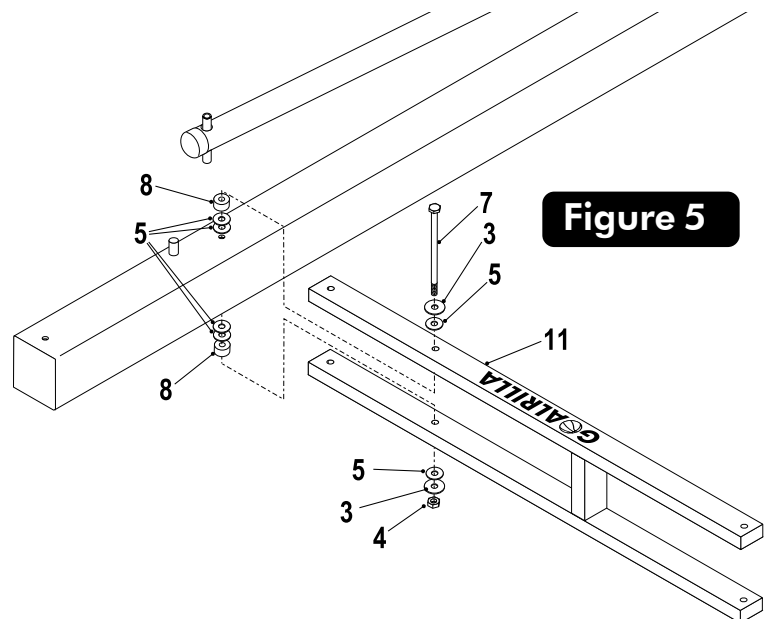

Figure 5
5. Attach lower arm (#11) to Pole (#2), as shown in Figure 5, using a bolt (#7), two flatwashers (#3), six plastic washers (#5), two spacers (#8) and hex nut (#4). Do NOT tighten bolt (#7) at this time.